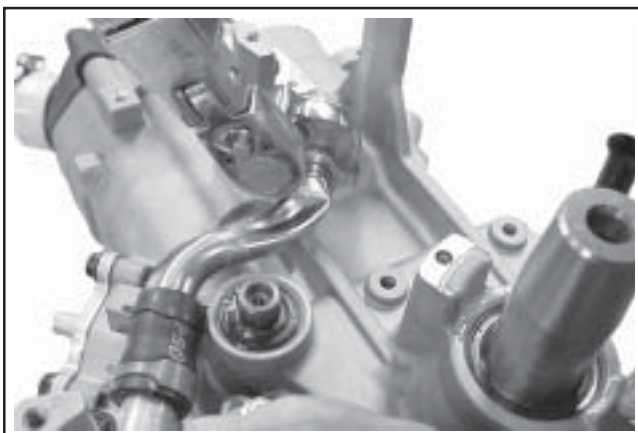

Figure 11-53. Torquing the Hex Cap on Fitting After Pump Installation.
9. Push down on the formed tube and hold in this position to prevent it from pivoting upward when tightening the hex cap. Torque the hex cap to **22.6 N·m (200 in. lb.)**, to secure the joint connection. Support the fitting with a wrench while torquing, if possible, to prevent applying unnecessary pressure on fitting and joint. See Figure 11-53. Check that the formed tube and hose section have not been pulled up.